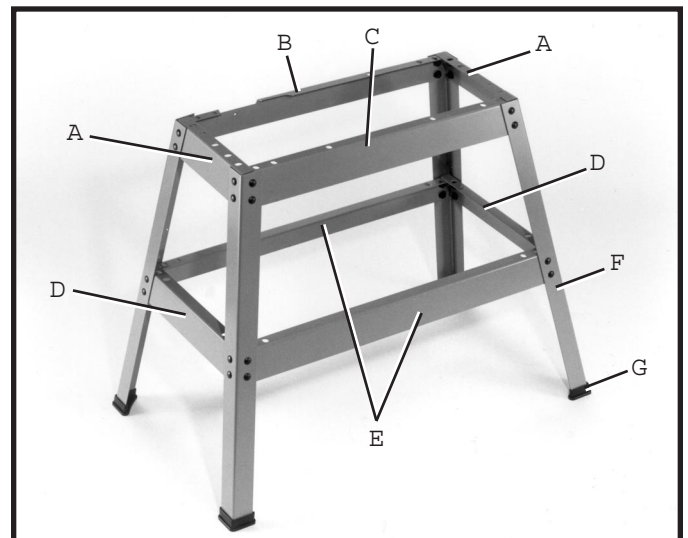

Fig. 6
1. Assemble two top end braces (A) Fig. 6, two top braces (B) and (C), two lower end braces (D), and two lower side braces (E) to the four legs (F) as shown using thirty-two 1/2 long carriage bolts, flat washers, and hex nuts Only tighten hex nuts fingertight at this time. IMPORTANT: The top lips of the two upper end braces (A) must fit on top of two upper side braces (B) and (C). NOTE: The one top brace (B) with the slotted edge will be at the rear of the jointer when it is assembled.
2. Assemble the four rubber feet (G) Fig. 6, to the bottom of each leg.